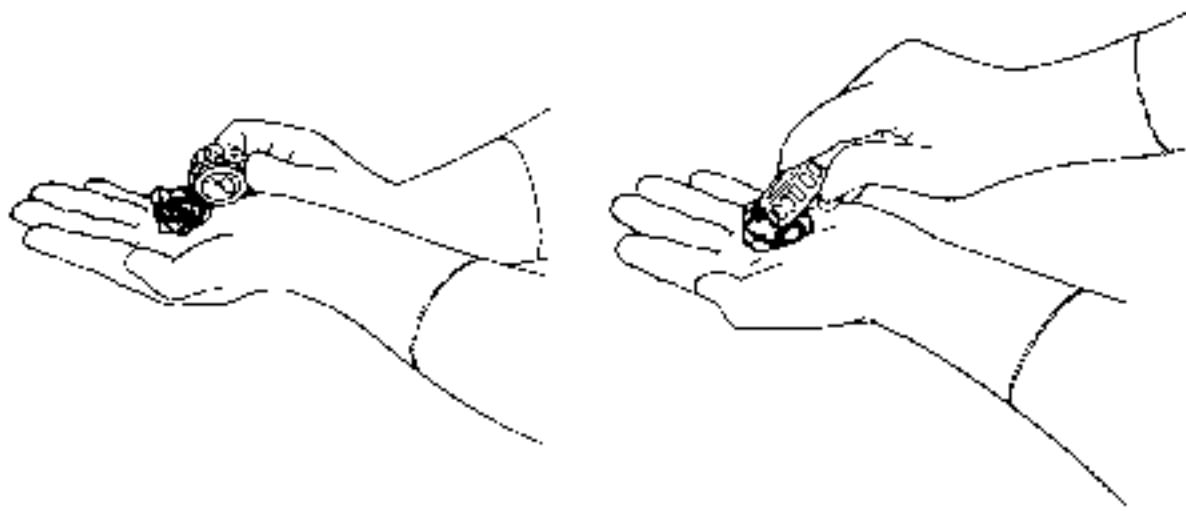

Figure 5-56. Hand Packing Bearing Cones With Grease.
6. Pack the bearing cones with Cub Cadet 251H EP grease using a bearing packer. If a bearing packer is not available, refer to Figure 5-56 and pack the bearings by hand as follows.